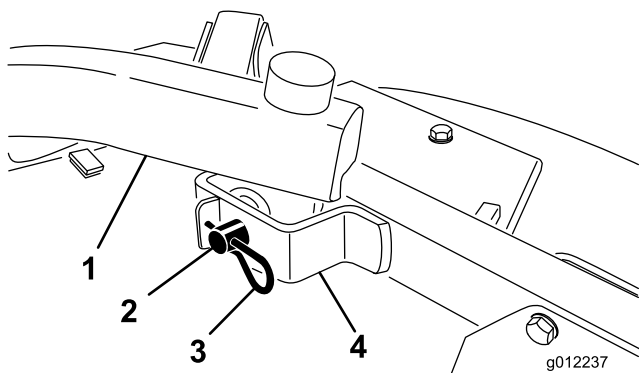

Figure 21
4. Remove the hair pin cotteners and clevis pins securing the lift arms to the castor arm brackets (Figure 21).